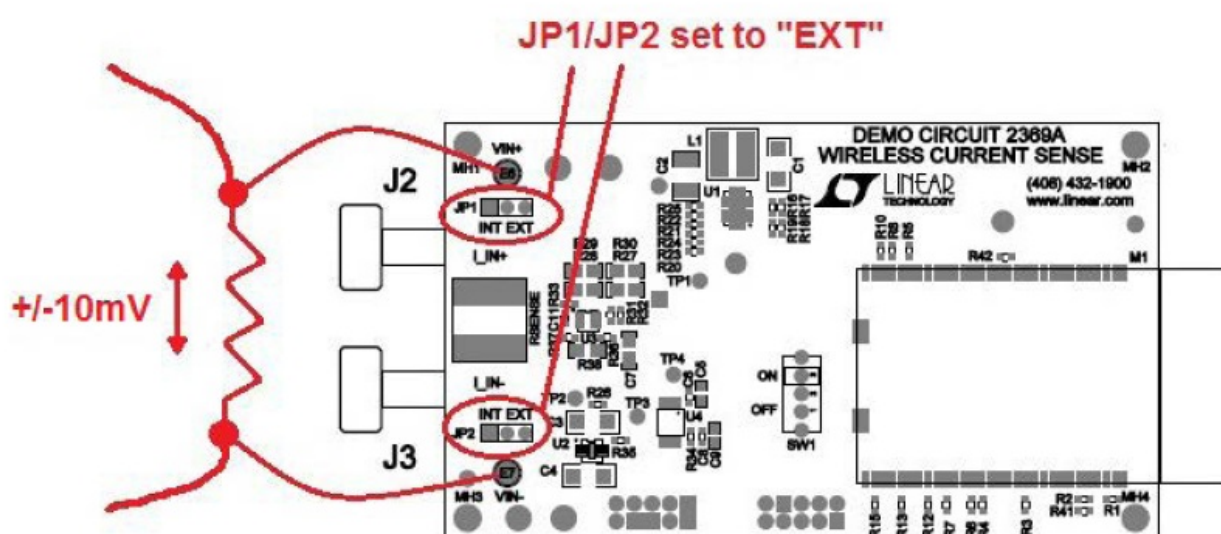

Figure 2. DC2369A Connections and Jumpers for External Sense Resistor
3. Alternatively, DC2369A can be used to measure the voltage across an external sense resistor. In this case, set jumpers JP1 and JP2 to EXT, and connect the voltage to be measured to the turrets labeled VIN+ and VIN-. The preconfigured DC2369A firmware and software will still assume a  $\pm 10mV$  full-scale input voltage and report that as a  $\pm 1A$  full-scale current. See Figure 2.